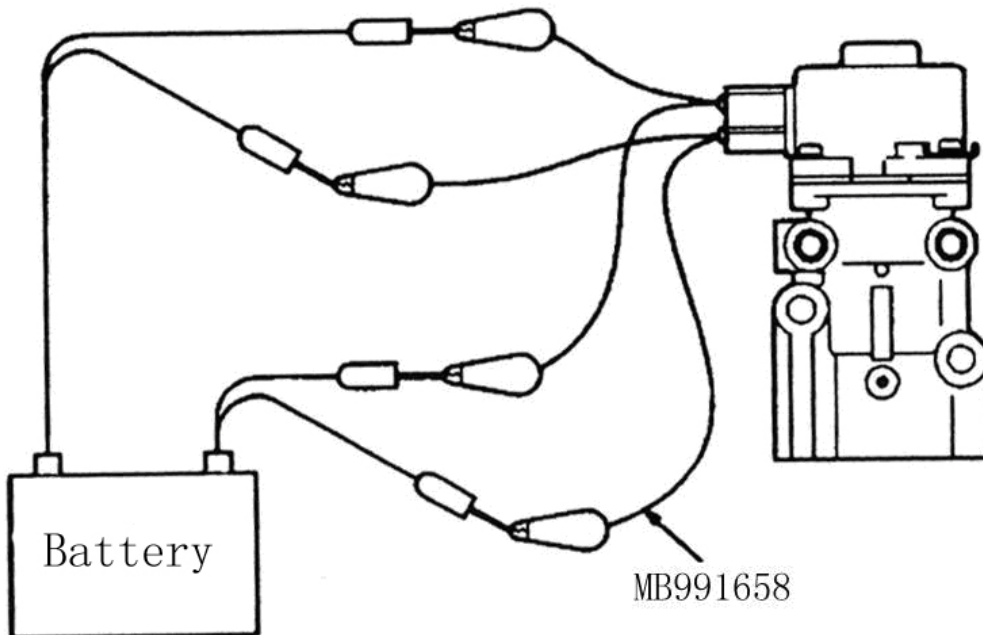

Fig. 10-18
- Connect terminals to the negative terminal of battery to test if any vibration occurs (as through the stepper motor is shaking slightly) due to the operation of the stepper motor, see Fig. 10-18.